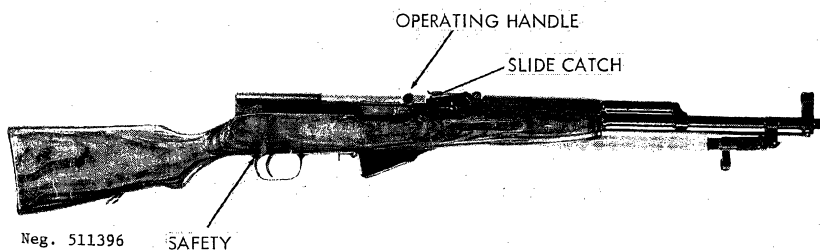
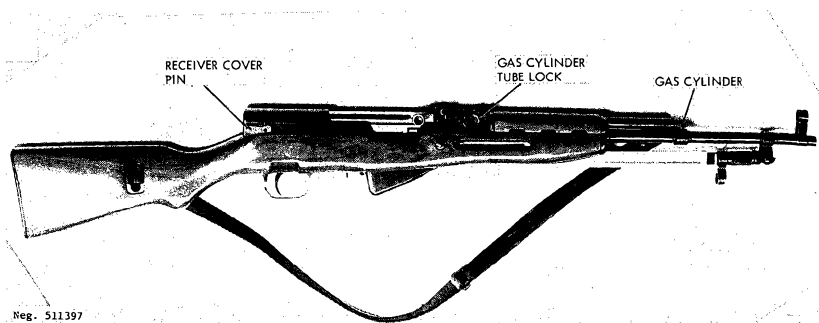
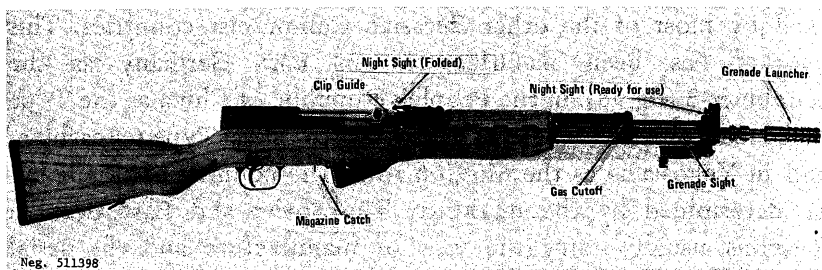
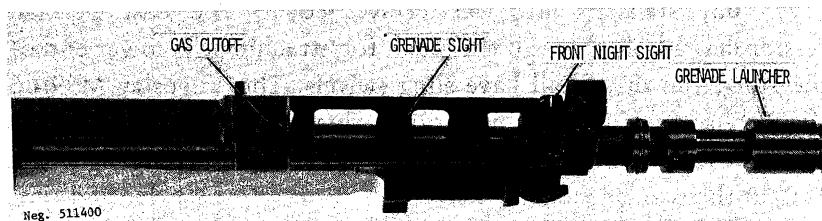

Figure 97. Soviet Simonov semiautomatic carbine (SKS).
Figure 98. East German Karabiner-S.
Figure 99. Yugoslav M59/66 rifle.
Figure 100. M59/66 gas cutoff.
The Soviet-designed Simonov semiautomatic carbine (fig 97), a gas-operated, integral box magazine-fed weapon equipped with a folding blade bayonet, is now obsolete in the Soviet Army, but is used by most of the other Eurasian Communist countries. This weapon has been manufactured in East Germany as the Karabiner-S (fig 98), in the People's Republic of China as the Type 56 semiautomatic carbine, in North Korea as the Type 63 carbine, and in Yugoslavia as the M59/66 rifle. The country of origin can be determined by the markings. The Soviet and East German weapons usually carry the year of manufacture and the serial number on the front left of the receiver; the PRC weapons have the symbol 五六式 (Type 56) located there, and the late PRC Type 56 has a spike bayonet. The North Korean weapons have "63" stamped into the receiver cover. The East German version has a hole through the stock for attaching the lower end of the sling; the others all have sling swivels. The Yugoslav M59/66 (fig 99) has a prominent spigot-type grenade launcher permanently attached to the muzzle and a folding grenade launching sight (fig 100) at the rear of the launcher.
a. Grasp the operating handle (fig 97), pull it fully to the rear, and release it. If the magazine is empty, the bolt will remain open. Insert a stripper clip into the clip guides at the top front of the bolt carrier, and with the thumb as close as possible to the base of the top cartridge, press the cartridges off the clip and into the magazine (fig 101). Remove the empty clip. If clipped
b. If the rifle is not to be fired immediately, apply the safety (fig 97) by rotating it forward and upward.
c. Set the rear sight for the desired range by depressing the slide catch (fig 97) and moving the sight bar along the leaf until the front edge of the bar is aligned with the line below the number that corresponds to the range in hundreds of meters. The first character on the sight leaf is a battle sight setting that is used in combat, for shooting at ranges up to 300 meters. The Yugoslav M59/66 has folddown luminous sights (fig 99) for use when firing under poor light conditions; flip these up for use.
d. The front sight is adjustable for zero. Refer to paragraph 95b(2) for the procedure to be followed.
e. To fire the weapon, rotate the safety rearward until it is parallel to the trigger; then aim, using a normal sight picture, and press the trigger. The SKS will fire one shot and reload itself; when the last round has been fired, the bolt will remain open. (The gas cutoff of the Yugoslav M59/66 must be turned to the right for the rifle to function. Press the gas cutoff button (fig 100) down and swing to the right).
f. To unload or clear the SKS, apply the safety, then pull back the magazine catch (fig 99) and allow the magazine to swing open. Remove all cartridges and close the magazine. Grasp the operating handle, pull it fully rearward to eject any cartridge that might have been in the chamber, and release the handle; the bolt will remain open. Inspect to insure that no cartridges remain in the magazine, barrel, or receiver. Close the bolt, either by opening the magazine again and pulling rearward on the operating handle and releasing it, or by pressing the magazine platform down slightly and pulling the operating handle rearward and releasing it. Move the safety to the ready position, press the trigger and apply the safety.
h. The Yugoslav M49/56 can launch rifle grenades. The grenades must have tail booms of 22-mm inside diameter and if at all possible, only Yugoslav-made grenades should be launched. Prior to firing grenades, clear the rifle (para 113f) and cut off the gas mechanism by pressing in the lock (fig 100) and rotating it to the top of the gas cylinder. Lift the grenade sight to its vertical position. Pull the operating handle rearward until it is caught open and insert a grenade launching cartridge into the chamber. (Note: These cartridges are packed in the tail booms of the Yugoslav grenades.) Under no circumstances can a bulletted cartridge be used; to do so will cause the grenade to explode on the launcher. Depress the follower and while holding it down pull the operating handle rearward then ease it forward. Tap the operating handle forward to insure that the bolt locked. Slide the appropriate type grenade fully onto the launcher. To launch the grenade, move the safety to the fire position, align the appropriate range arc (fig 102) with the ogive (largest diameter) of the grenade and then align the sight and grenade on the target. Press the trigger. Refer to paragraph 96 for grenade performance data.
(3) Rotate the receiver cover pin (fig 98) to a vertical position and pull it out as far as possible.
(4) Open the magazine by pulling the magazine catch (fig 99) to the rear. Pull the operating handle fully rearward, and lift the bolt carrier and bolt out of the receiver. Separate the bolt from the bolt carrier.
(5) Rotate the gas cylinder tube lock (fig 98) to its uppermost position and lift the rear of the handguard to remove the gas cylinder tube and the gas piston. The tube can be upended and the piston will slide out.
(1) Invert the rifle and engage the pins at the front of the trigger group with the notches behind the magazine box. Swing the trigger group into position in the stock and seat it by a blow of the hand on the loop of the trigger guard. Move the safety to the fire position to insure that the catch is fully engaged.
(2) Slide the gas piston, small end first, into the gas cylinder tube; fit the large end of the tube over the gas cylinder (fig 98). Swing the rear end of the gas cylinder tube into the rear sight base and turn the gas cylinder lock downward.
(3) Place the bolt into the receiver, with the extractor to the right front, and position the rear of the bolt about three-eighths of an inch from the inner rear wall of the receiver. Lay the bolt carrier on the bolt and while pressing down on the carrier, move it slightly back and forth until it mates with the bolt. Slide the bolt and bolt carrier fully forward in the receiver. Insert the driving spring assembly, stepped end first, into the bolt carrier.
(4) Insure that the receiver cover pin is pulled fully out to the right, then slide the receiver cover into place from the rear. Secure it with the receiver cover pin and rotate the pin down to the locked position. Close the magazine, and replace the cleaning rod and the combination tool case.